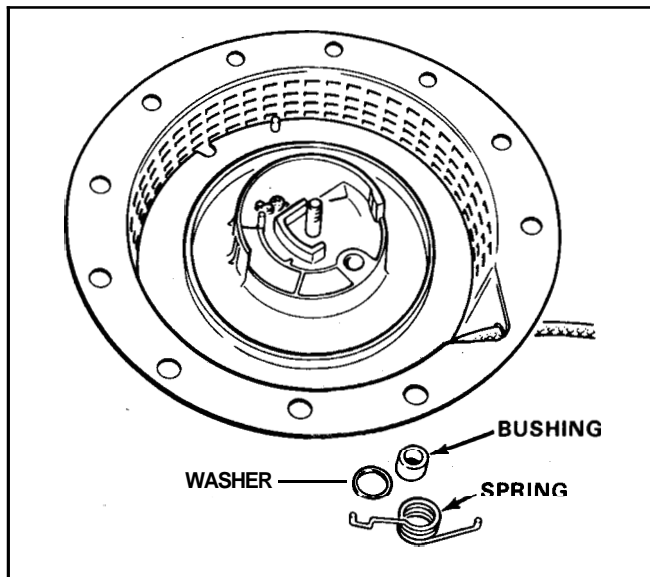

Figure 45
7. Remove the bushing and nylon washer from the center post of the starter assembly. See Figure 45.